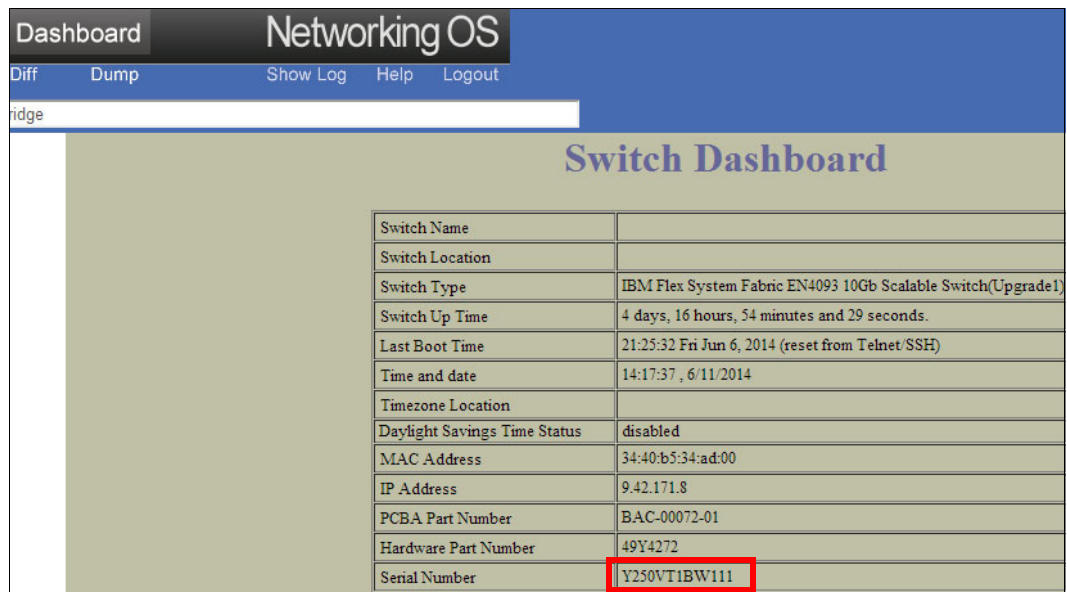

Figure 2-15 EN4093 serial number
4. From the Switch Dashboard, locate the serial number, as shown in Figure 2-15.